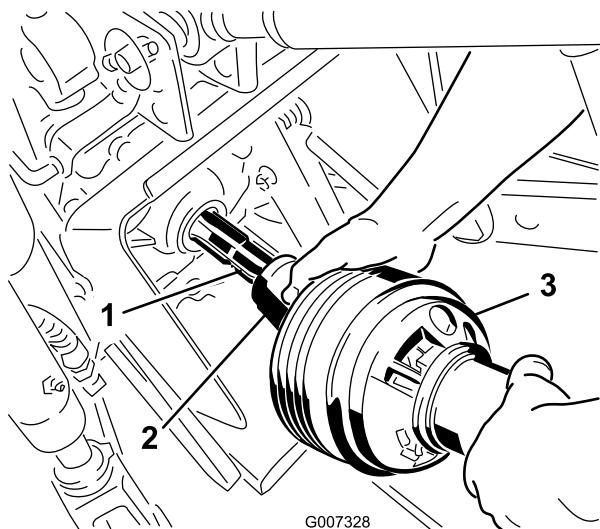

Figure 10
4. Assemble the outer PTO driveshaft section to the traction-unit PTO output shaft (Figure 10).
9. Assemble the outer PTO driveshaft section to the PTO shaft of the traction unit (Figure 10).